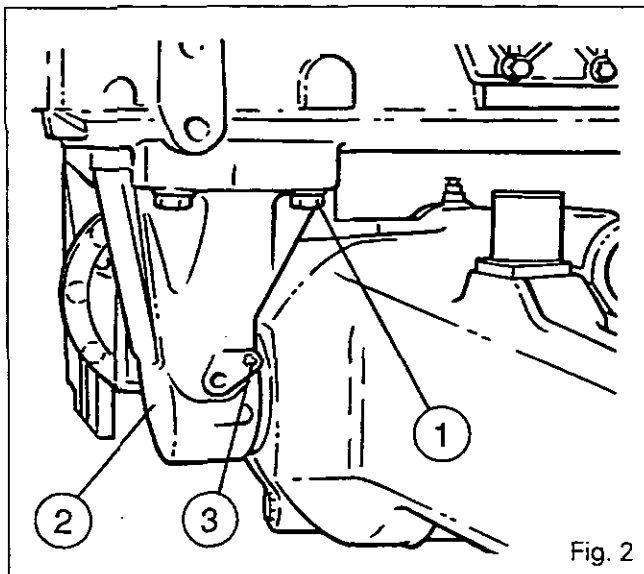

Fig. 2
47. Reassemble the housing (20) and mobile column (21) assemblies. Fit pins (18) and (19). Crimp pin (18).
48. Refit the springs (17).
49. Compress spring (7). Position the rack /10\ as per Fig. 2 to avoid any interference with lever (4). Fit and tighten the bolts (6) after coating them with Loctite 241.
50. Adjust the lever (4), rod T in contact with the notched lever (9) using the adjusting screw [5] (3 mm Allen wrench).
6. Remove the grease nipple (3) and the bolts (1). Remove the bearing (2) (Fig. 2), the washer (4) and the dust guard (9).